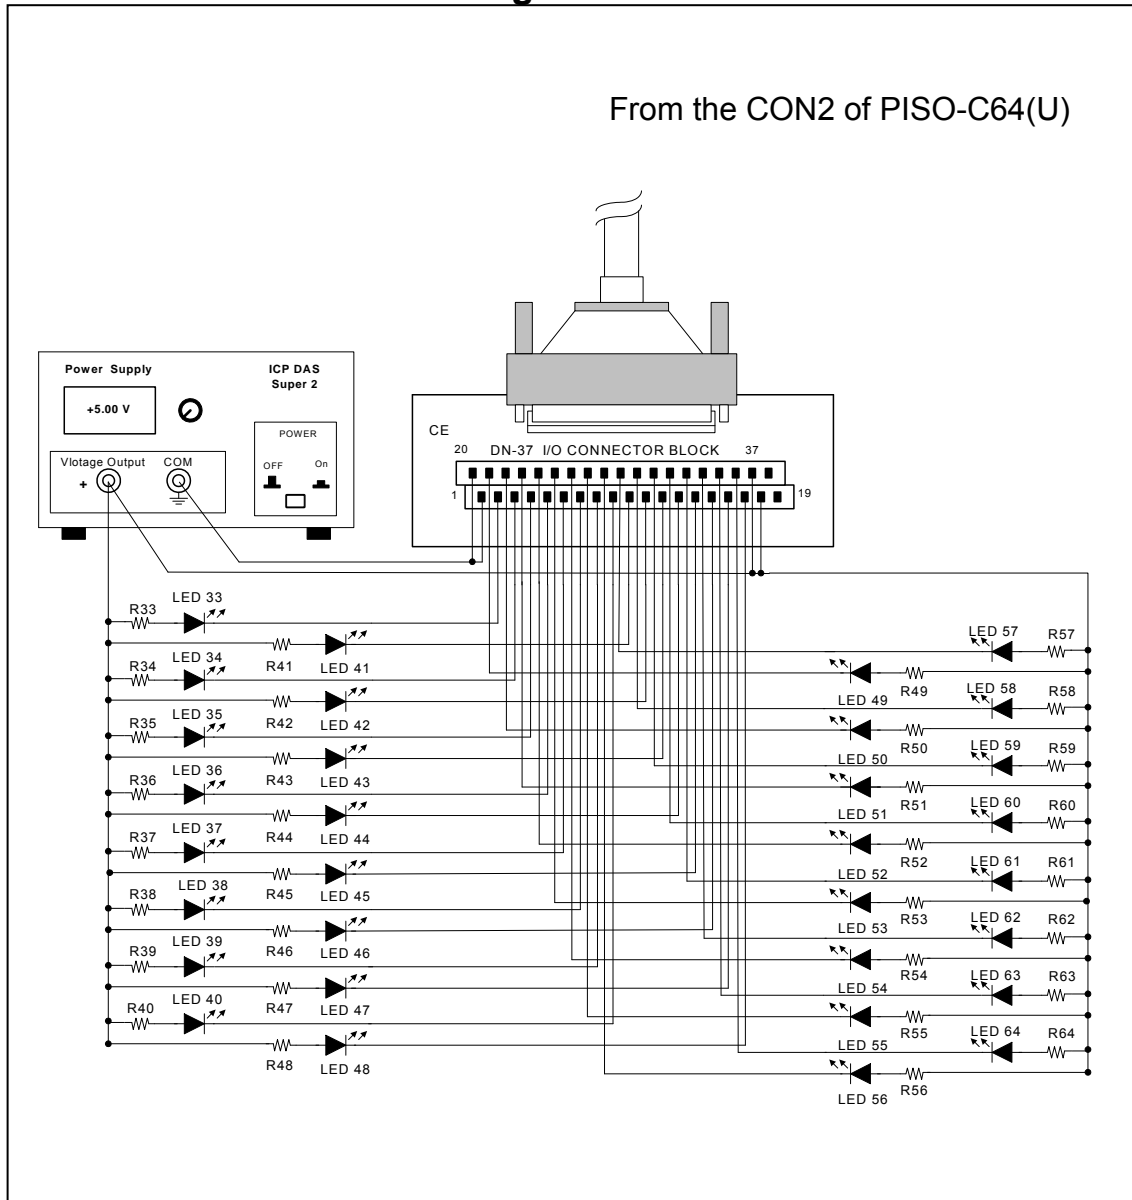

Figure 4-3-3. The circuit diagram of external device 2 for the digital outputs of PISO-C64(U)
- Refer to Figure 4-3-3 for the circuit diagram of external device 2: